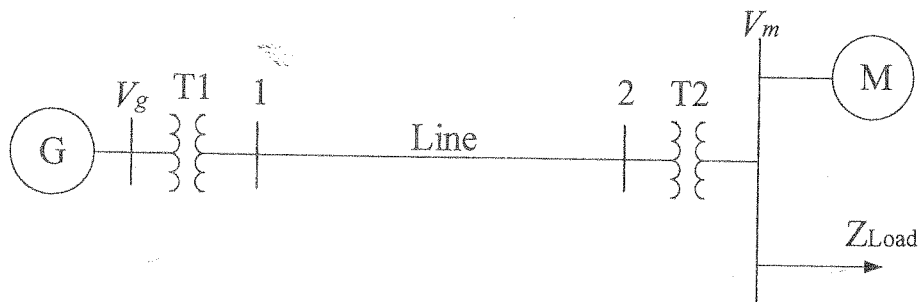

Figure Q1
b) The three-phase power and line-line ratings of the electric power system shown in Figure Q1 are given as